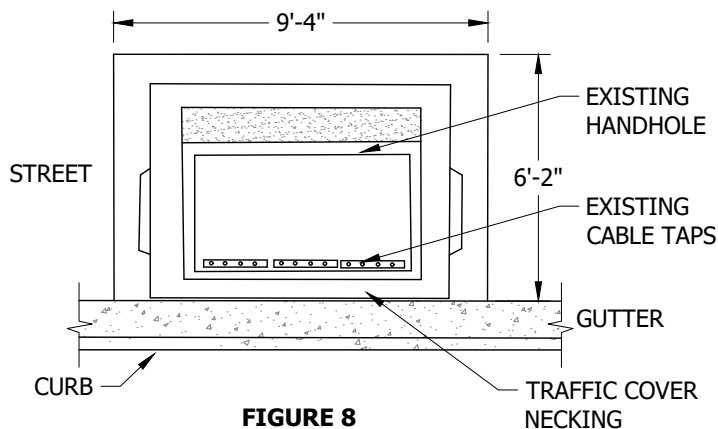

FIGURE 8
- AFTER THE LOCATION IS ESTABLISHED, MARK OUT DIMENSIONS FOR THE EXCAVATION WIDTH, LENGTH AND DEPTH PER FIGURE 8. THE WIDTH AND LENGTH DIMENSIONS GIVEN ALLOW AN EXTRA 8 INCHES FOR SETTING THE SUBSTRUCTURE.